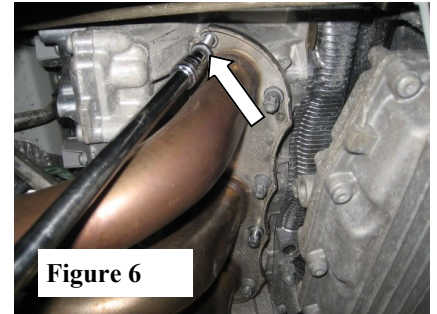

Figure 6
6. Remove R/H & L/H manifold bolts (See Fig. 6)